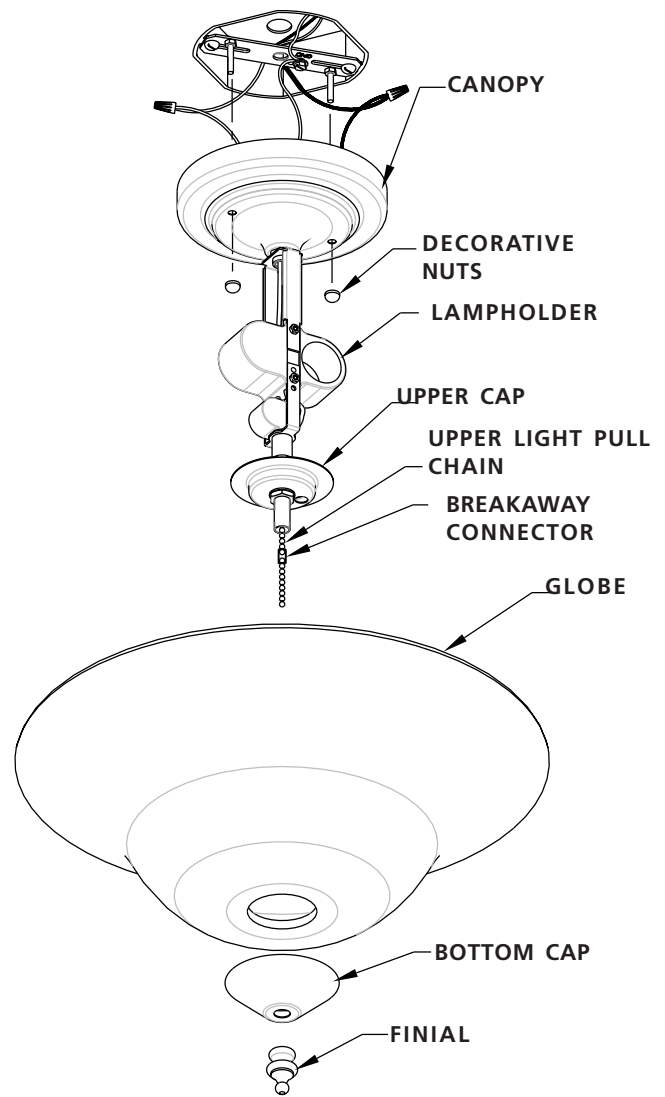

FIGURE 3
NOTE: Refer to Figure 3 for the steps below.
NOTE: Refer to Figures 3 and 4 for the steps below.
NOTE: Refer to Figure 3 for the steps below .
3. Locate and install the fan mounting plate over the pipe nipple as shown in Figure 3.